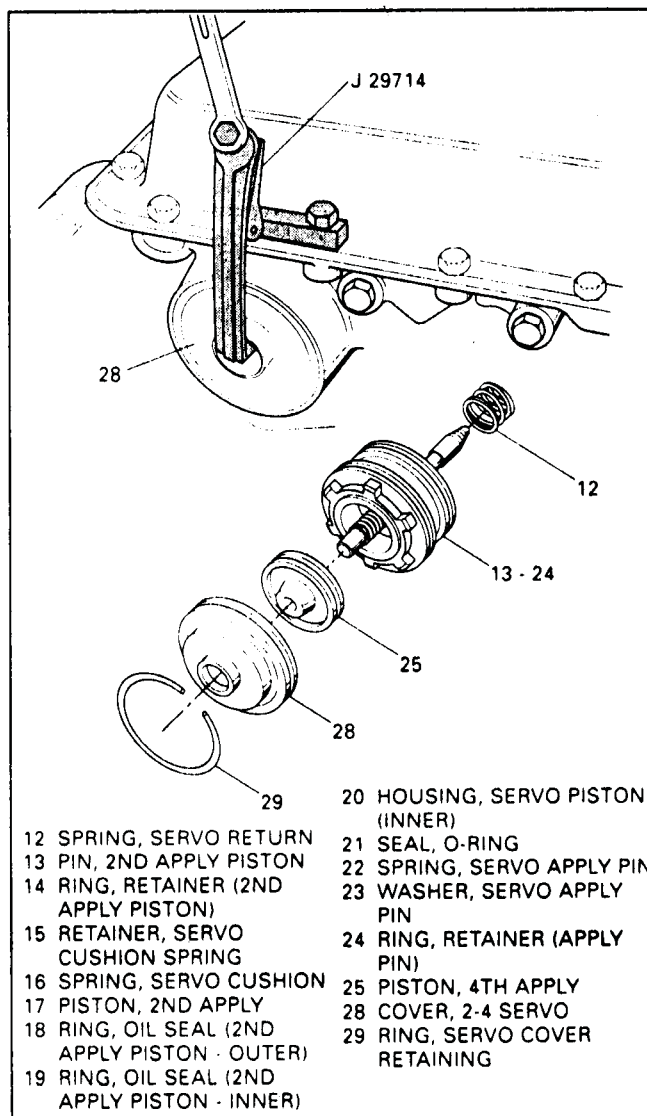

Figure 34
5. Rotate transmission so that bottom pan is facing up (See Figure 34).
6. Install servo cover compressor shown in Figure 34 if necessary.
7. Remove servo cover snap ring and the 2-4 servo cover (See Figure 34).
9. Remove the 2-4 servo assembly (See Figure 34).